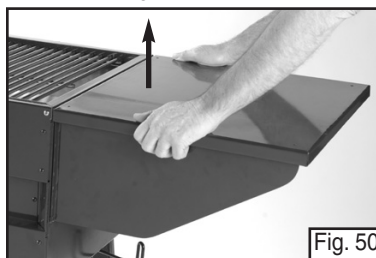

Fig. 50
- Lift up on Right Side Shelf to remove from grill and fold in flaps as shown. (Fig. 50 & 51)